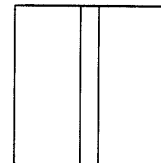

Figure 2.13
2. Position the metal so that the joint to be welded will be in the vertical position. (See Figure 2.13.)